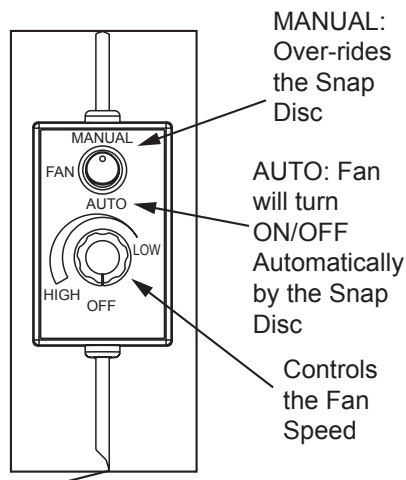

Figure 15.2
2. The blower is equipped with a speed control. Adjust the fan speed by turning the speed control clockwise to "Low" or counterclockwise to "High" (**Figure 15.2**).